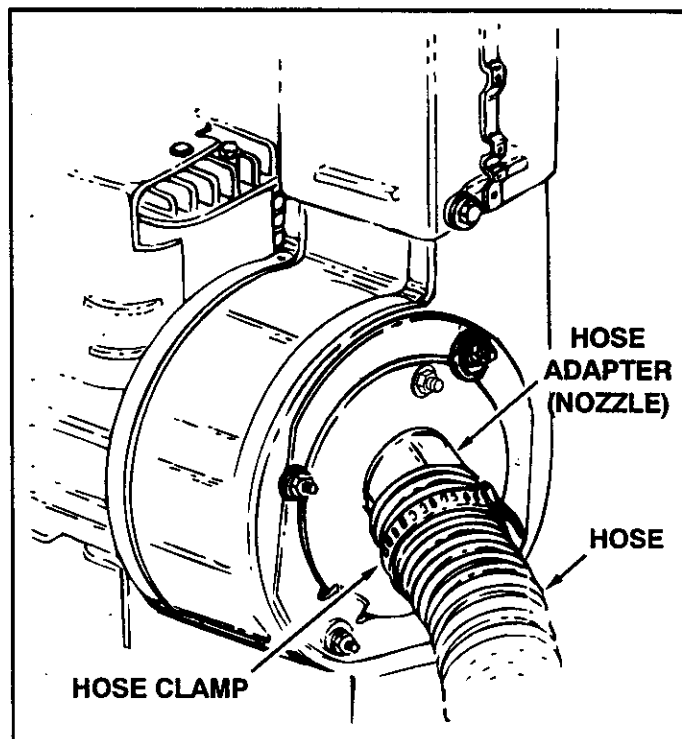

FIGURE 22
- Assemble a hose clamp on end of hose and push hose onto the hose adapter (nozzle). See figure 22. Secure hose by tightening the screw on hose clamp. Do not collapse hose adapter when tightening.